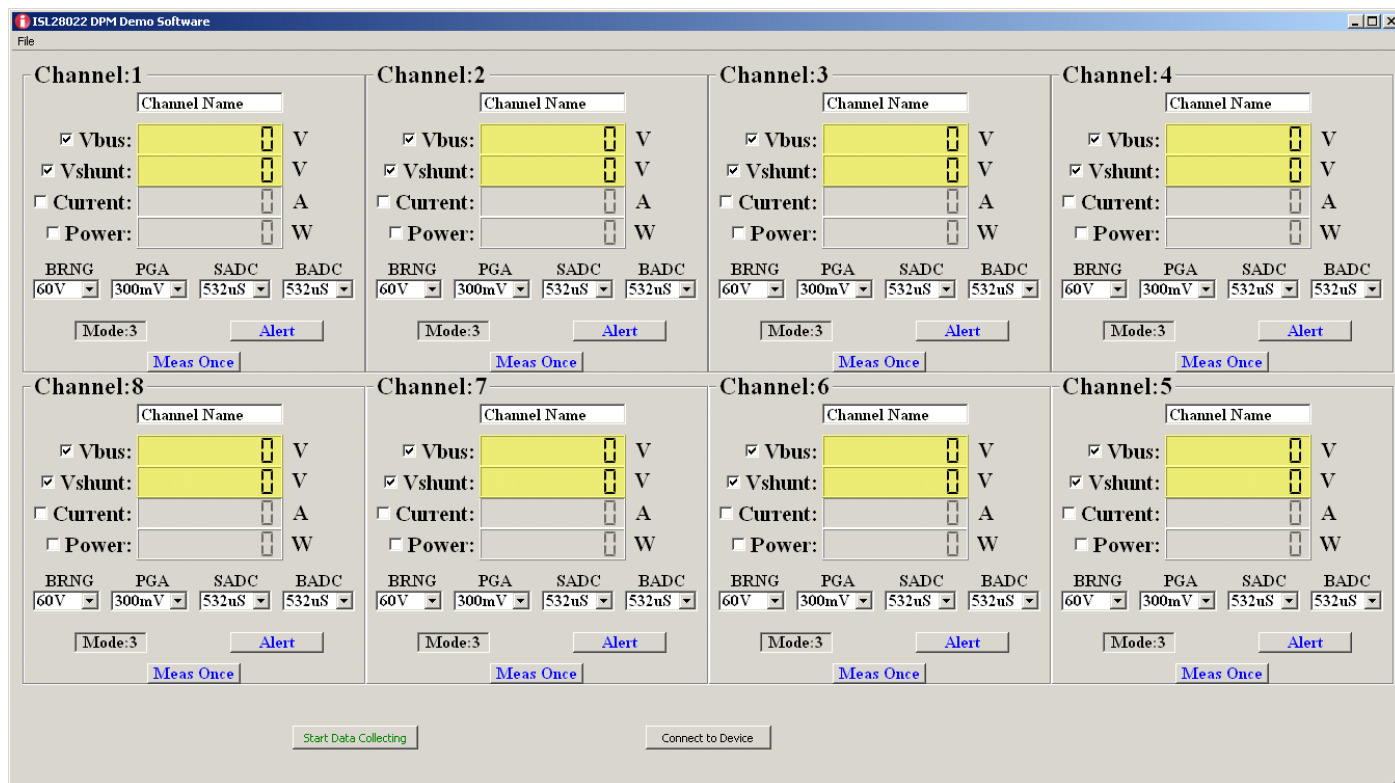

FIGURE 3. ISL28022 DPM DEMO SOFTWARE WINDOW
- To run the program, go to the "Start" menu and choose the isl28022_DpmMultiSiteEvalBrd folder, and then choose the isl28022_DpmMultiSiteEvalBrd icon. Once clicked, the demo software window should appear as illustrated in Figure 3.
The file name entered in the dialog box is the base name for all files saved. A unique named file is generated for each measured parameter (Vbus, Vshunt, Current, Power) across 8 channels. The software only saves data to a file for each measured parameter selected. If a measured parameter is not selected across 8 channels, then a file with the non-selected measured parameter is not generated. For example, power and current files would not be generated for the configuration of the DPM window shown in Figure 3.